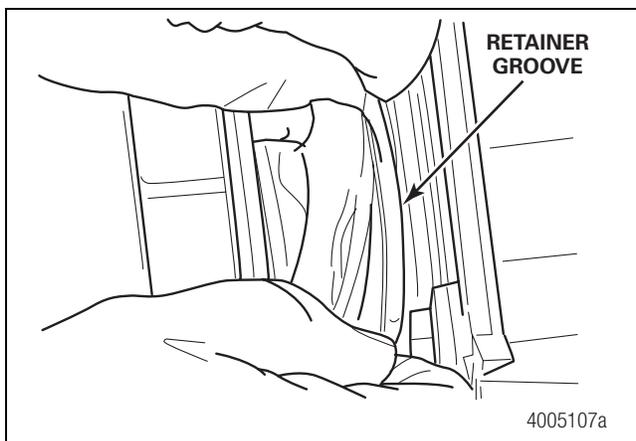
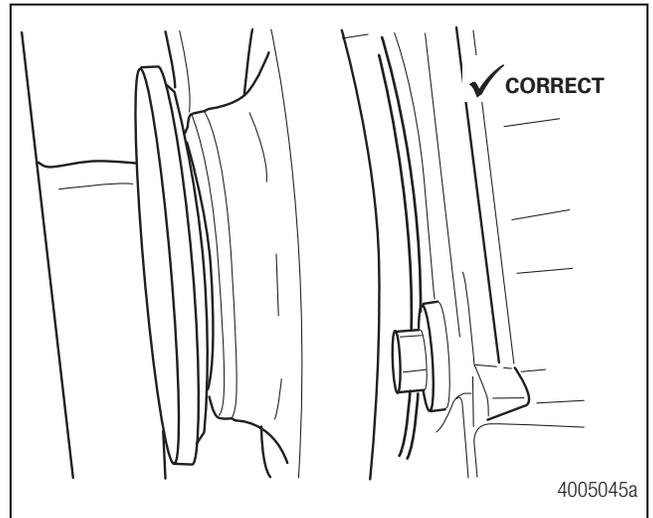
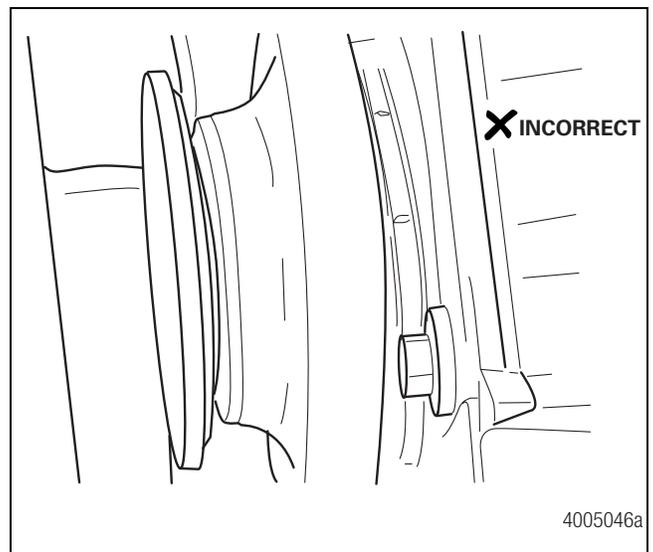

Figure 5.12
Figure 5.13
Figure 5.14
11. Rotate the piston boot and verify that the piston boot beads are correctly seated in the retainer groove. Figure 5.12. The piston boot beads must be correctly seated. Figure 5.13 and Figure 5.14.